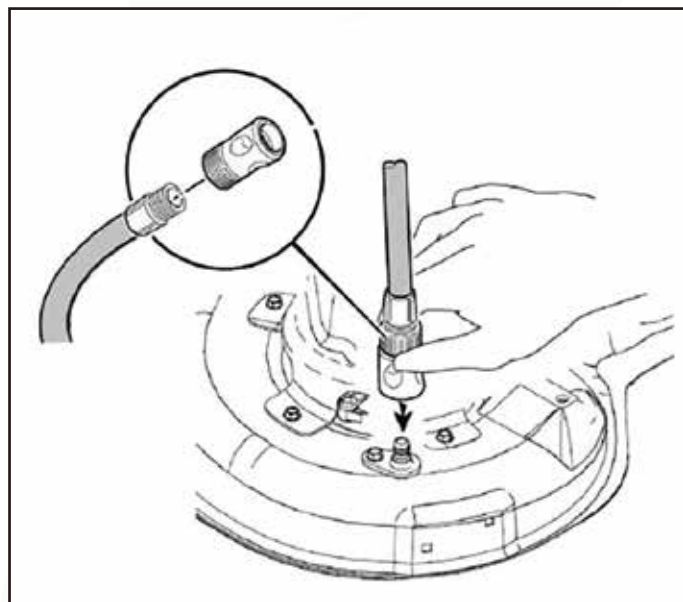

Fig. 23
6. Engage the Power Take-Off (PTO) to activate the mower blades. The rotation of the blades and the water will clean the bottom of the mower deck.(Fig. 23)